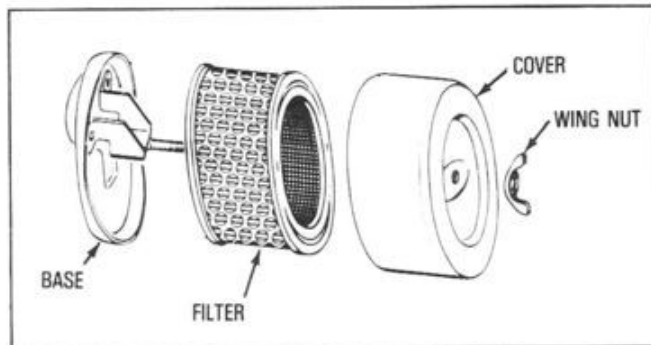

Figure 5
③ SERVICE AIR CLEANER (see Figure 5)